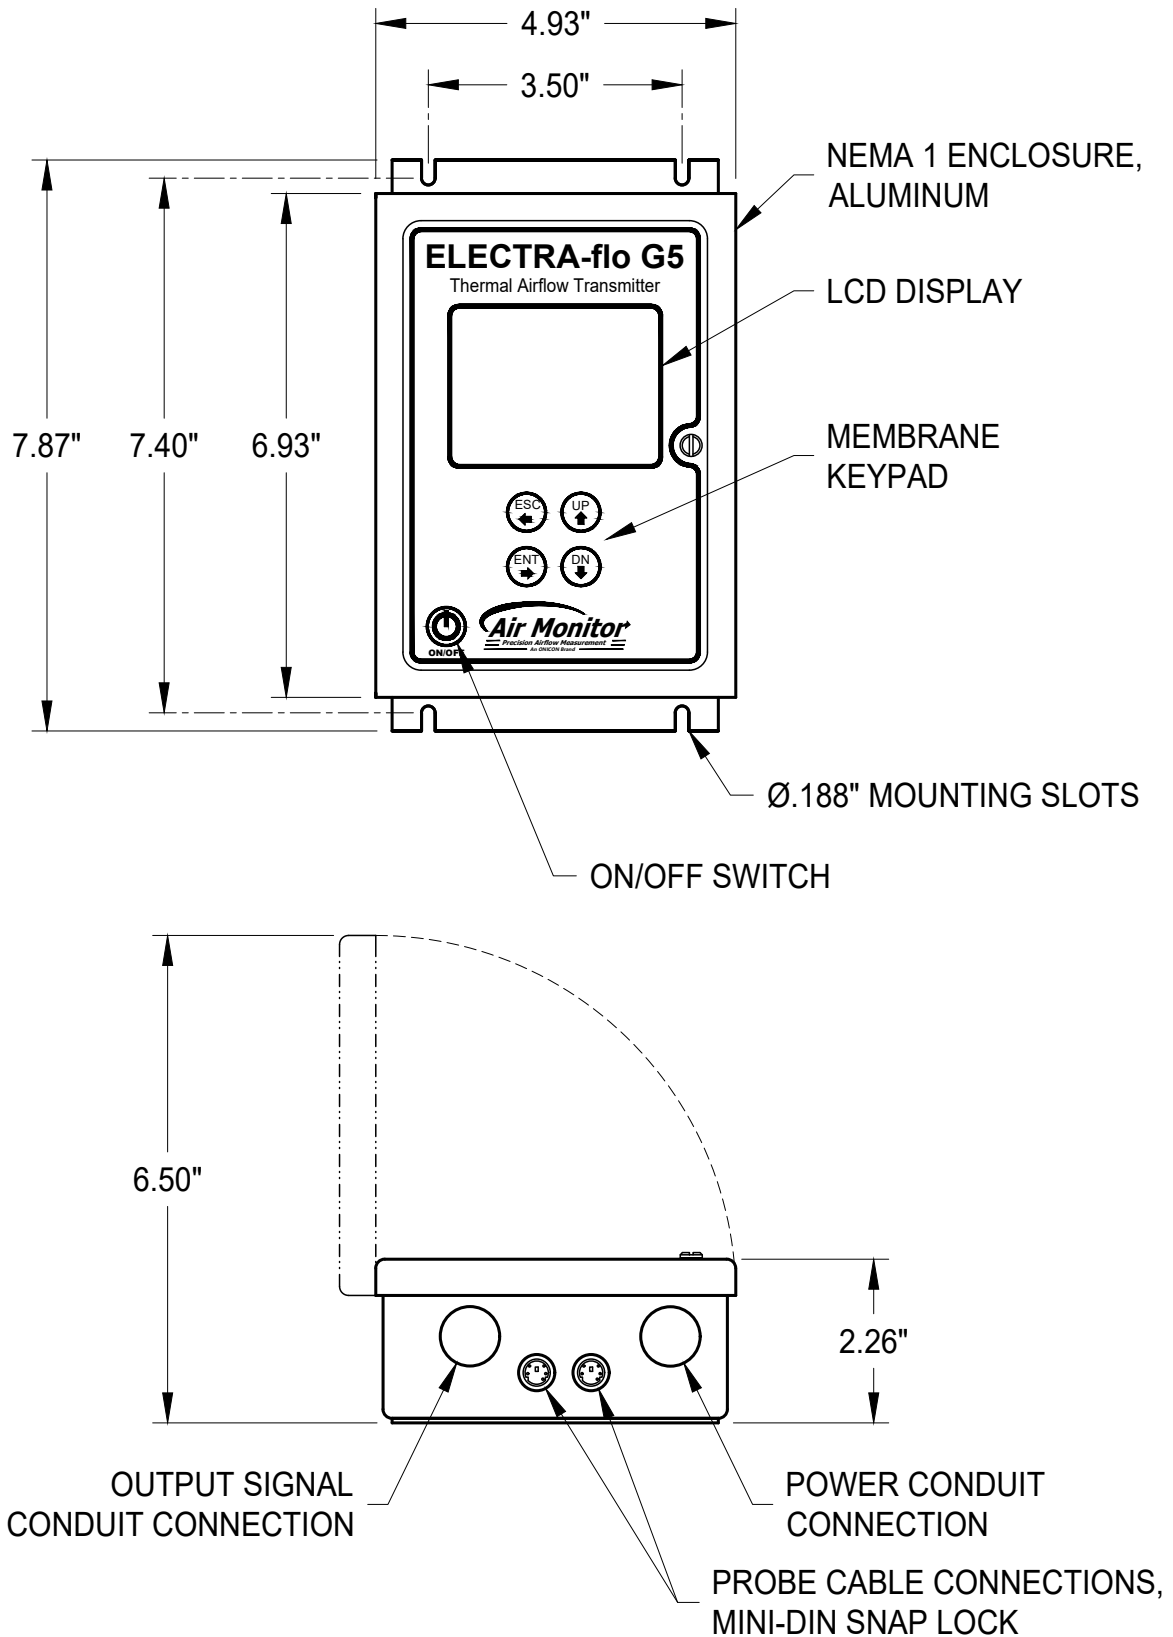

Figure 15
- See Figure 15 for transmitter dimensions and installation clearances.
- For NEMA 1 Aluminum Enclosure (See Figure 15): Tools Required: Electric drill, #25 (0.1495") bit, screwdriver or nut driver, and four #8-32 self-tapping machine screws.